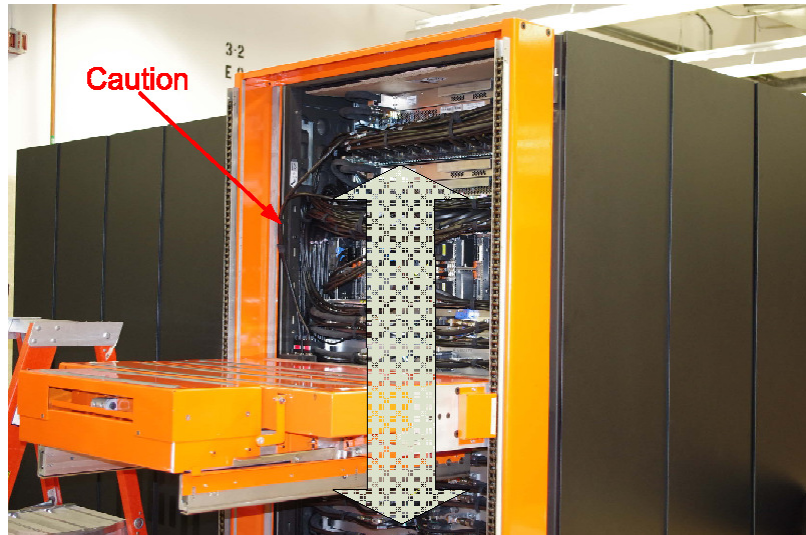
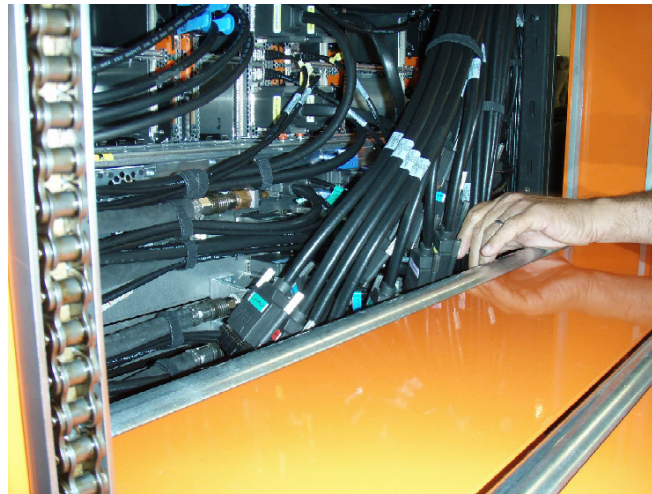

Figure 17 Lift table movement path
Figure 18 Secure cables
STEP 25 Ensure that all the cables of the rack are dressed such that the lift table will not catch on cables as it is moved up and down across the face of the rack. See Figure 17 and Figure 18.